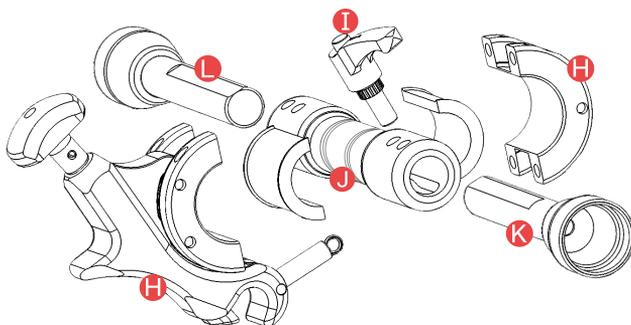
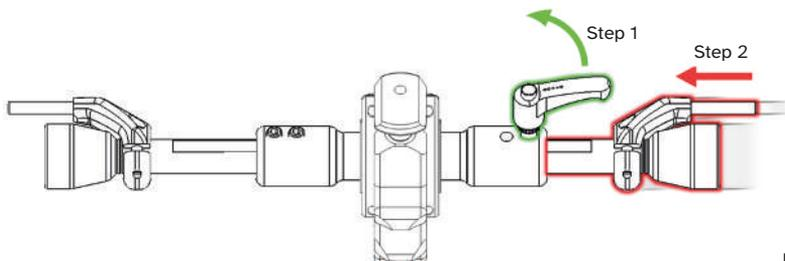
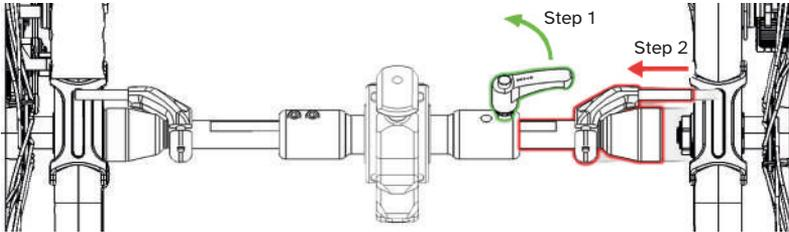

Figure 16
Figure 17
Figure 23
1. Unscrew the Clamping Lever (Figure 16 Letter I) by half a turn to release the telescopic axle (Figure 16 Letter K). (Figure 17).
- Retract the telescopic axle (Figure 16 Letter K) until it reaches its minimum extension. Do not tighten the Clamping Lever before reaching step number 5 (Figure 17).
1. Unscrew the Clamping Lever (Figure 16 Letter I) by half a turn to release the telescopic axle (Figure 16 Letter K). (Figure 23).
2. Retract the telescopic axle until it reaches its minimum extension (Figure 23).